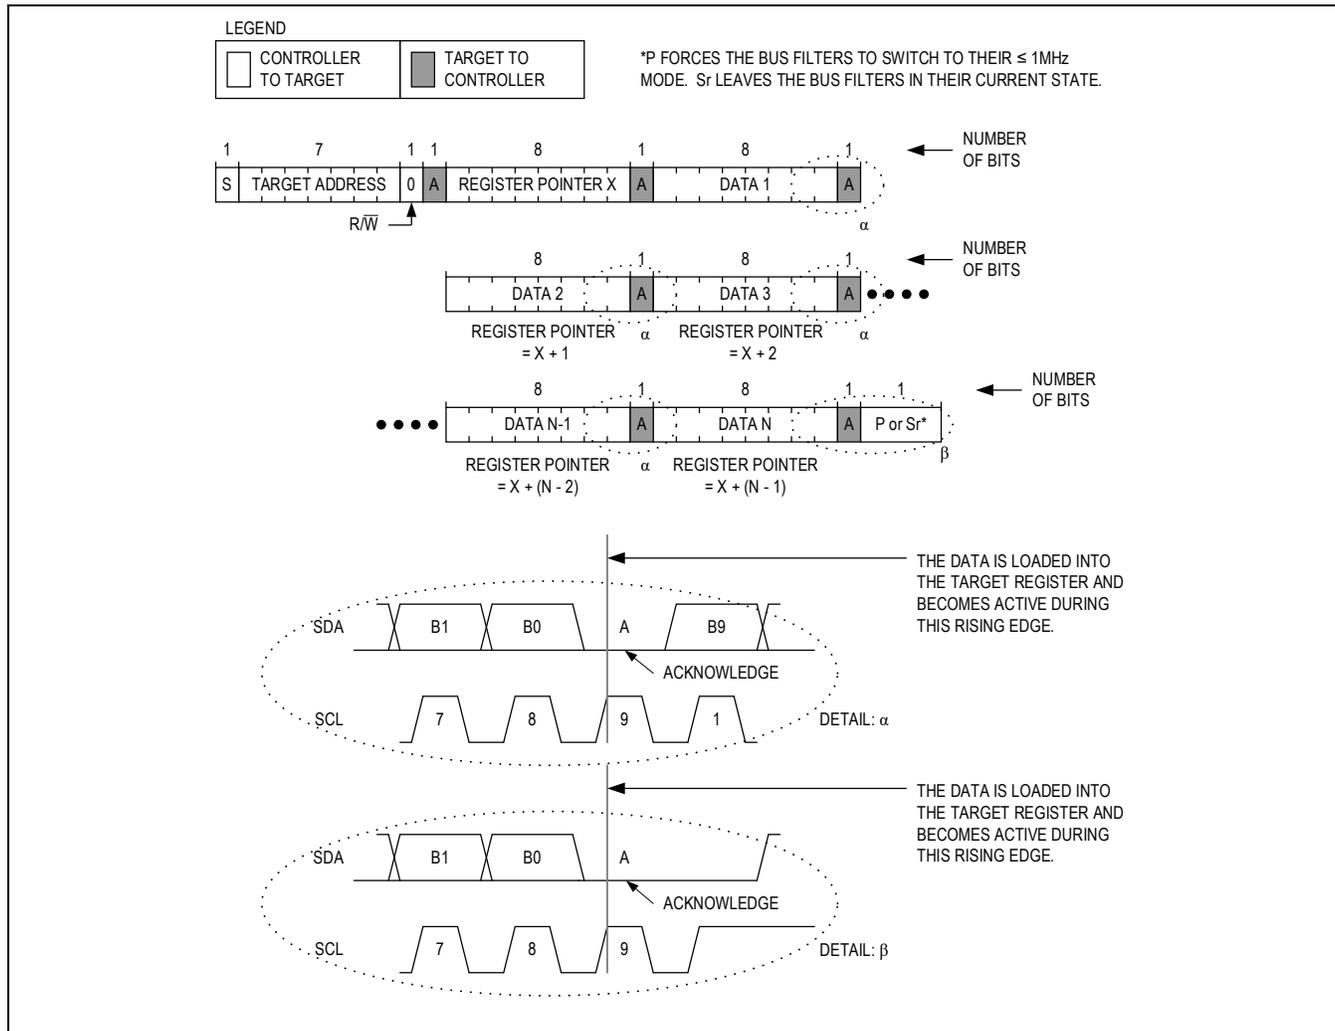

Figure 13. Writing to Sequential Registers
Figure 13 shows the protocol for writing to sequential registers. This protocol is similar to the “Write Byte” protocol, except that the controller device continues to write after the target device receives the first byte of data. When the controller is done writing data, it issues a STOP condition (P) or REPEATED START condition (Sr).